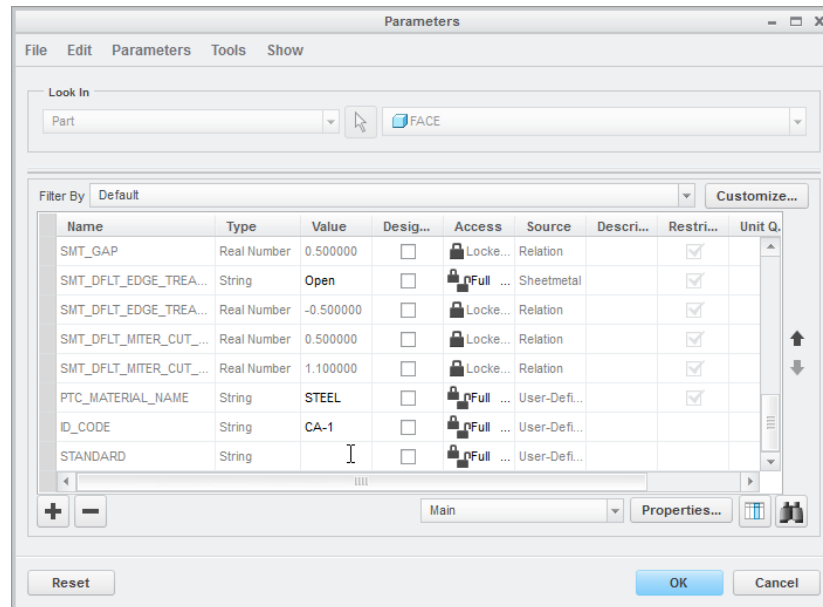

Figure 8: Created parameters (id\_code and standard) and values.
- 2) Create needed parameters (Type String) and give values (Figure 8).